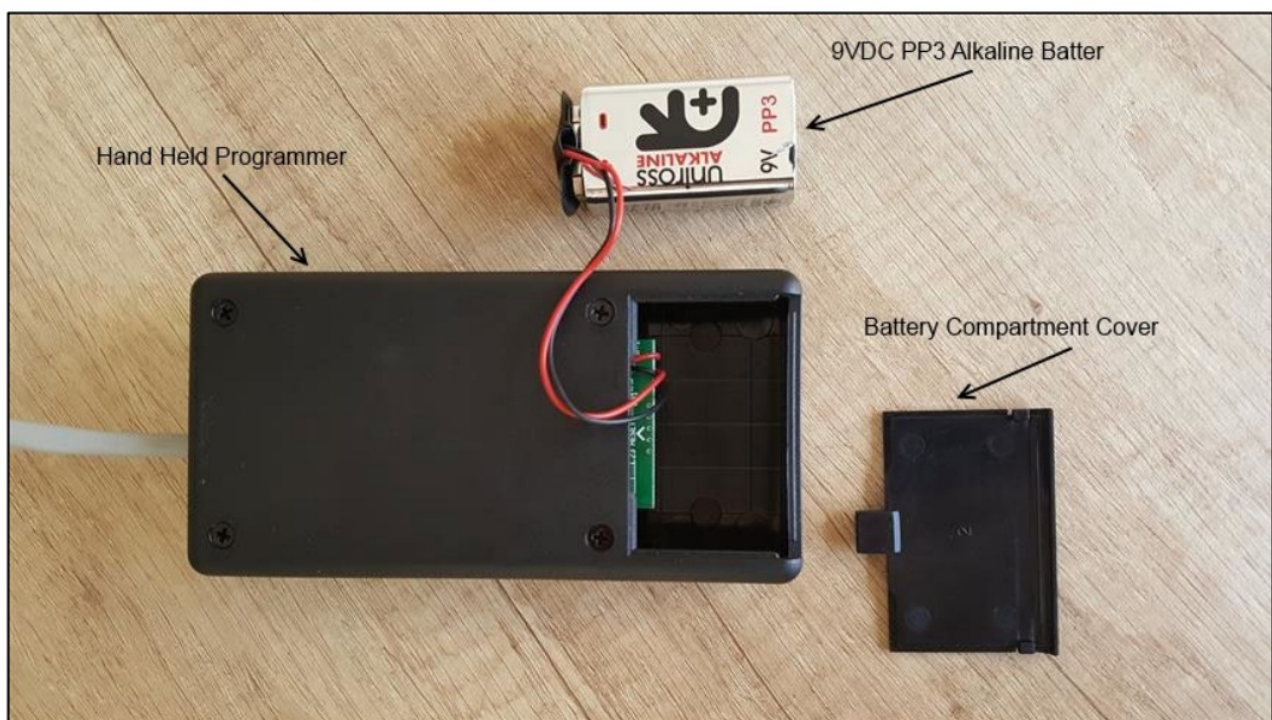

Figure 1: Programmer
- Referring to Figure 1 above, remove the battery compartment cover and extract the polarized battery